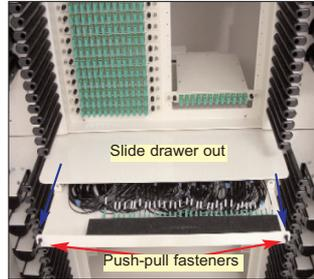

Fig. 15
- The input and output pigtails for the FSM are stored and accessed in the front portion of the FSM. In order to access the pigtails, pull the push-pull fasteners and slide the drawer out (Fig. 15).
- The output pigtails for the FSM are stored and accessed in the front portion of the FSM. In order to access the pigtails, pull the push-pull fasteners and slide the drawer out (Fig. 15).